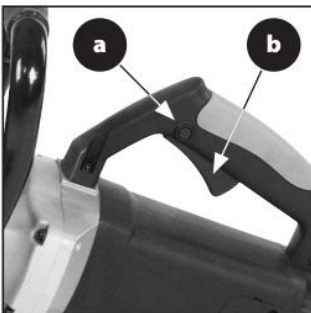

FIG. 5a & 5b
- Push in the safety lock button (Fig.5a) on the side of the handle with your thumb.